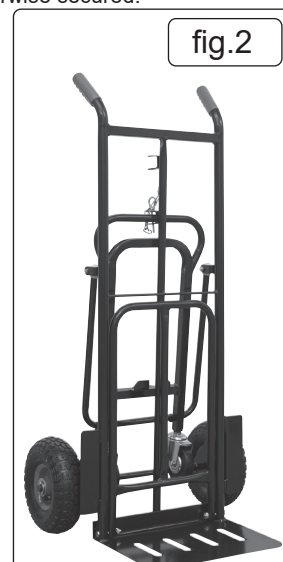

fig.2
- 4.1.4. The truck can be used in three different configurations as shown in Figs. 2, 3 & 4.
- 4.2. **STANDARD SACK TRUCK.** To operate as a two wheel sack truck ensure that the castor wheels and secondary frames are secured flat against the main frame. The castor wheels should be turned sideways and the loop handle should be resting in the lower stowage bracket with the locking pin in place, as shown in Fig.2.